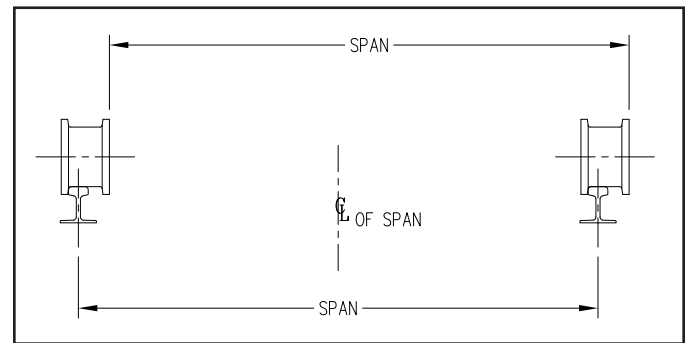

Figure 7. Checking Wheels
3. To check the distance between the trucks, push all truck wheels in one direction. The distance from the outside of the wheel on one side of the span to the inside of the wheel on the other side of the span should equal the span length, see figure 7. The tolerance on this distance is  $\pm 1/32"$ .